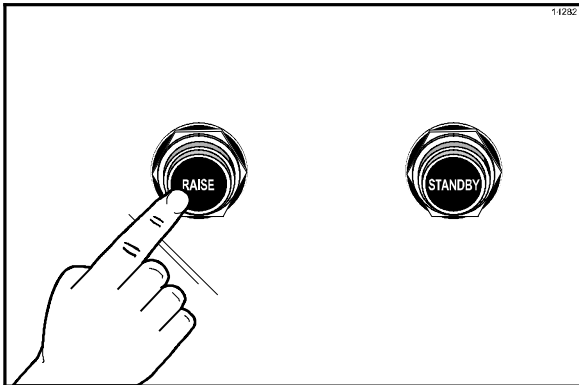

Figure 77
1. Raise the upper platen to the OPEN position by pressing the red RAISE button. (See Figure 77.)